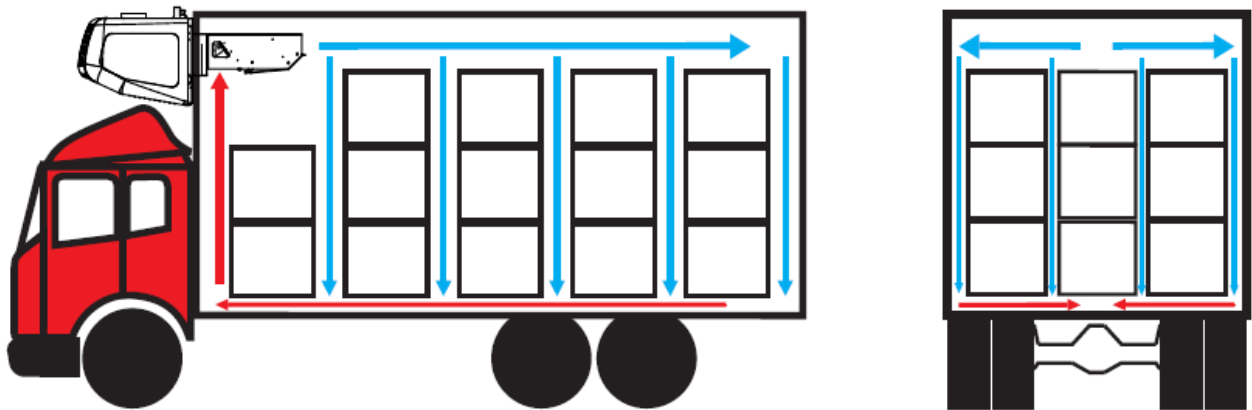

Figure 5 - Air circulation inside the cold room
- Leave a free space of about 6 - 8cm between the load and the front wall and about 20cm between the top of the load and the roof (Figure 5).